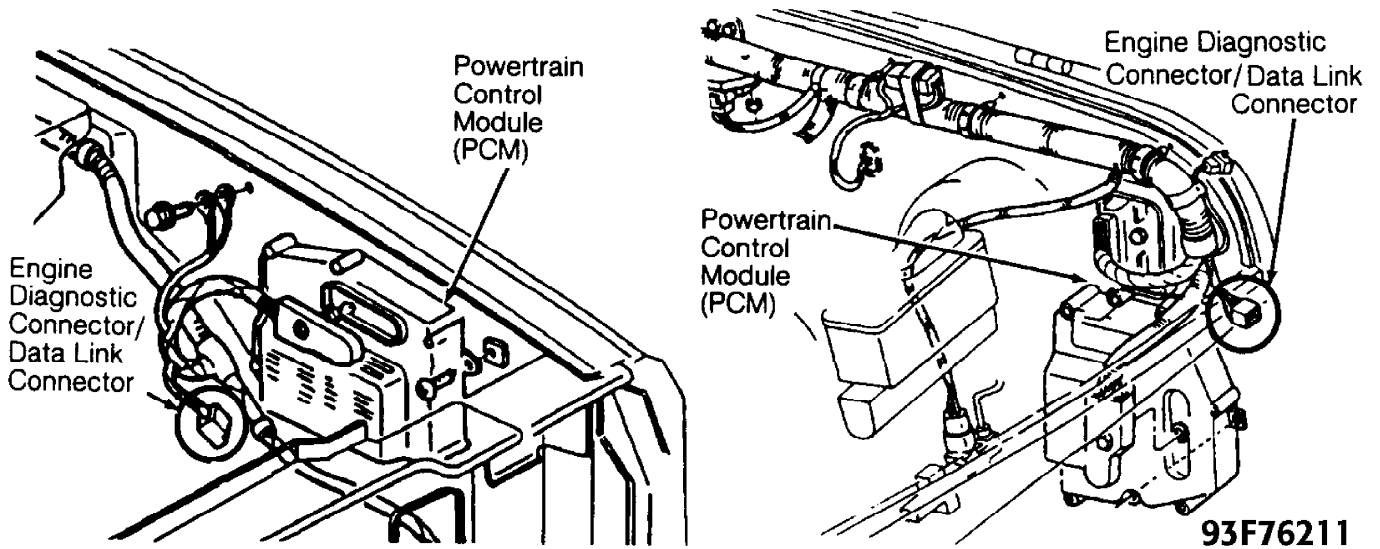

Fig. 2: Locating Diagnostic Connector (Cherokee & Wrangler)
1) Ensure ignition is off. Attach DRB-II to engine diagnostic connector. Connector is located on left side (right side on Grand Cherokee) of engine compartment, near PCM. See Figs. 2 and 3. Start engine (if possible). Turn A/C system on, then off (if equipped).
1) To perform SRI memory check, ensure ignition is off. Attach DRB-II to engine diagnostic connector. Connector is located on left side (right side on Grand Cherokee) of engine compartment, near PCM. See Figs. 2 and 3. Turn ignition switch to RUN position.
1) To reset SRI light, ensure ignition is off. Connect DRB-II to engine diagnostic connector. Connector is located on left side (right side on Grand Cherokee) of engine compartment, near PCM. See Figs. 2 and 3. Turn ignition switch to RUN position.
2) To transfer mileage to new PCM, ensure ignition is off. Connect DRB-II to engine diagnostic connector. Connector is located on left side (right side on Grand Cherokee) of engine compartment, near PCM. See Figs. 2 and 3. Turn ignition switch to RUN position.